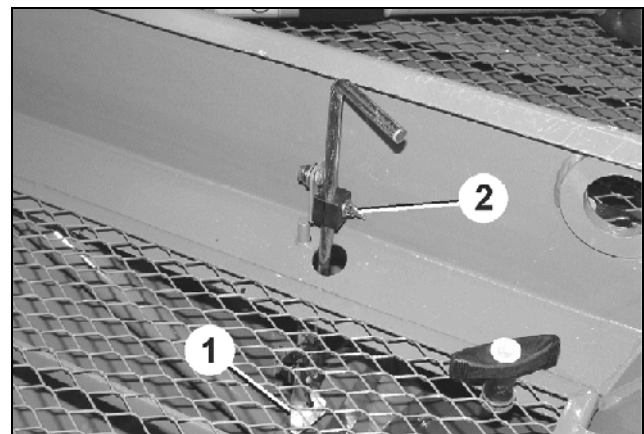

Fig. 108
1. Slacken the thumb nut (Fig. 108/2) lösen.
2. Set the level of the fill level sensor (Fig. 108/1) according to the desired seed residual amount.